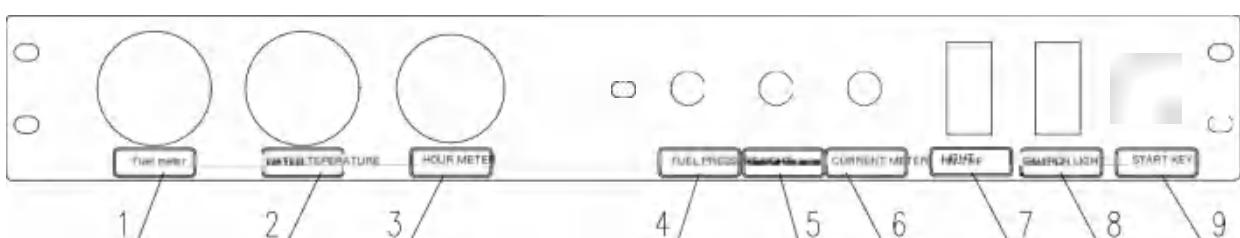

Figure 3-2 Schematic diagram of switch instrument
2.2 Instrument display (see Figure 3-2):